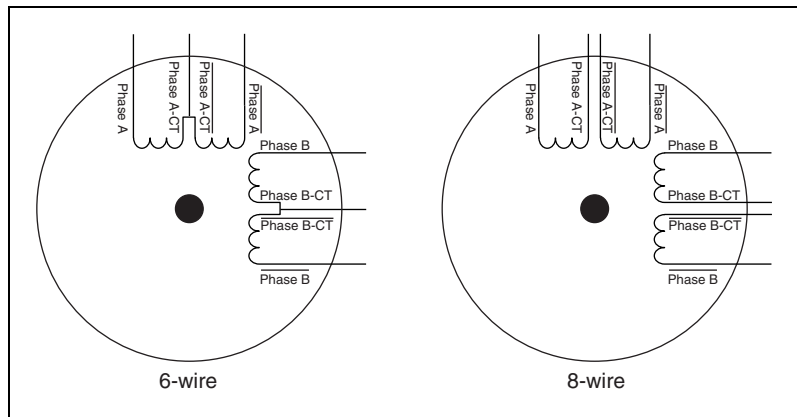

Figure 17. 6-Wire and 8-Wire Stepper Motors
2-phase stepper motors come in 4-, 6-, and 8-wire variations. Figure 17 shows a 6-wire and an 8-wire stepper motor. A 4-wire motor is the same as a 6-wire motor except that the center taps (CT) are not brought out.